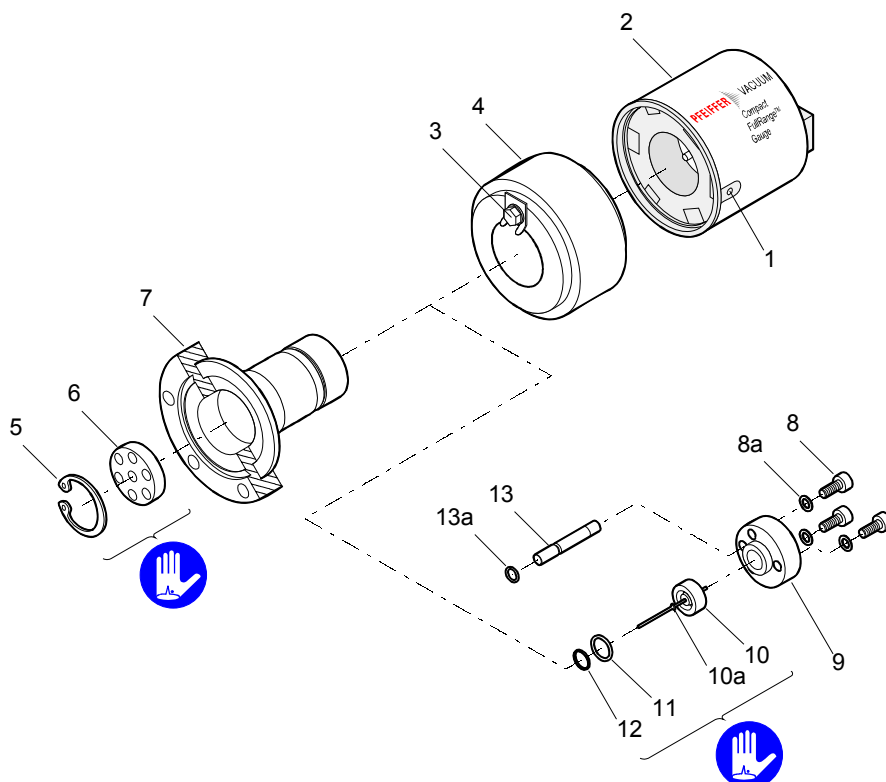

Figure 2
- 1 Remove the old ignition aid (10a), for example with tweezers (→ Figure 2).
- ① Insert the FPM seal (11) with the support ring (12) centered into the measuring chamber (7). The sealing surface, seal, and ceramic part must be clean (→ Figure 2).
- ② Carefully insert the anode (10) incl. ignition aid (10a) into the measuring chamber.
- ③ Insert the Pirani element (13) with the FPM seal (13a) slid over it into the corresponding bore hole.
- ④ Carefully place the pressure piece (9) on the measuring chamber and tighten them with the three hexagon socket screws (8) incl. lock washers (8a) uniformly until the stop position is reached.
- ⑤ Position the ignition aid (10a) by pushing the mounting tool over the anode pin until the mechanical stop is reached.
- ⑥ Blow the particles in the measuring chamber with dry nitrogen (be careful to hold the measuring chamber with the flange pointing downwards).
- ⑦ Slide the polarity insert (6) into the measuring chamber until the mechanical stop is reached.
- ⑧ Place the circlip (5) snugly fitting on the polarity insert.